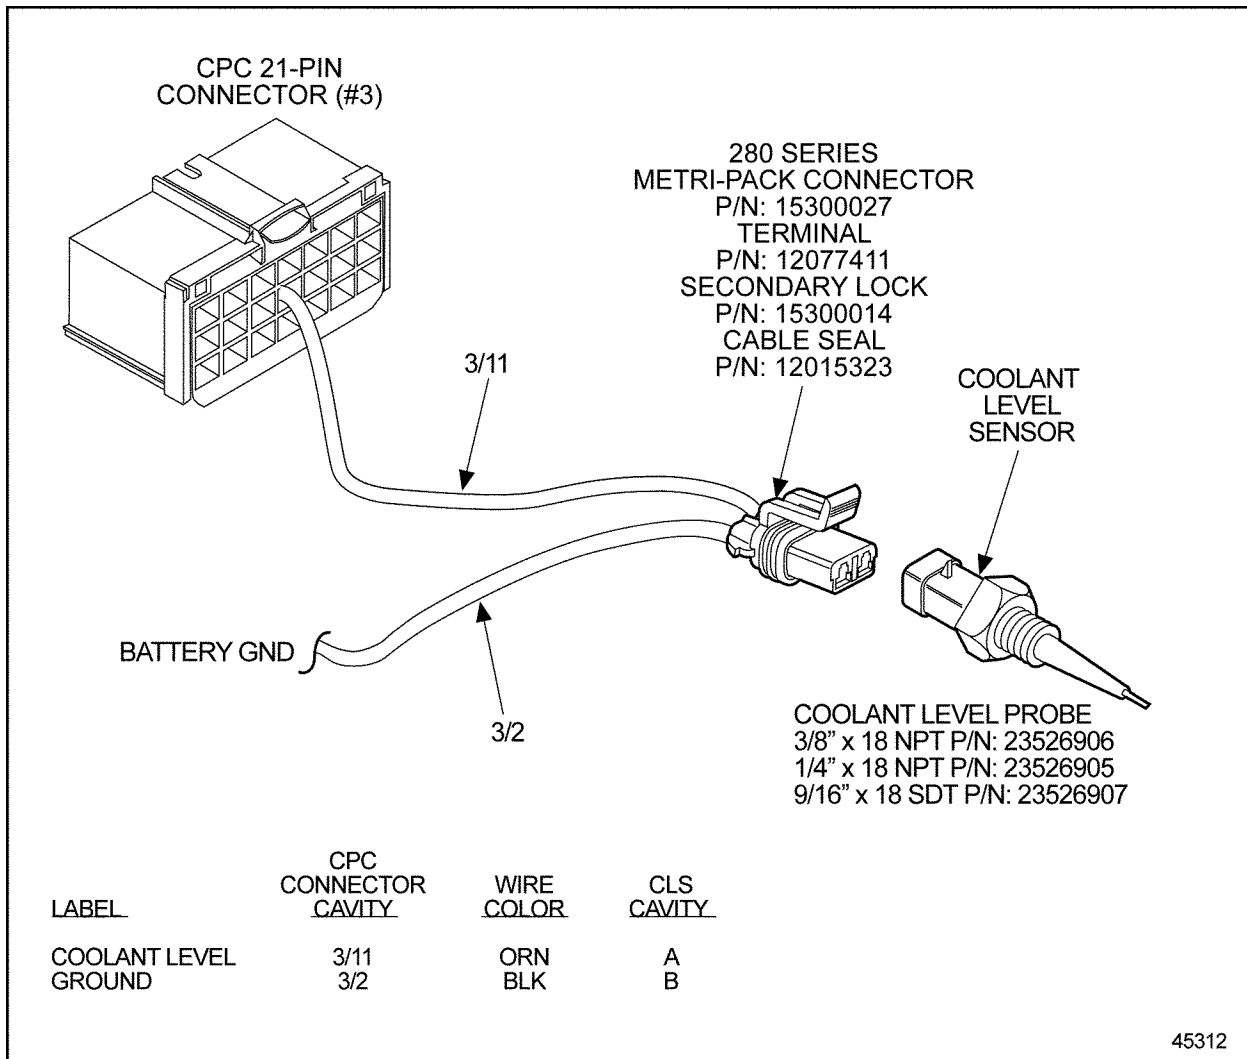

Figure 10-4 Engine Coolant Level Sensor Installation for CPC
3. Disconnect the ECL Sensor. See Figure 10-4.